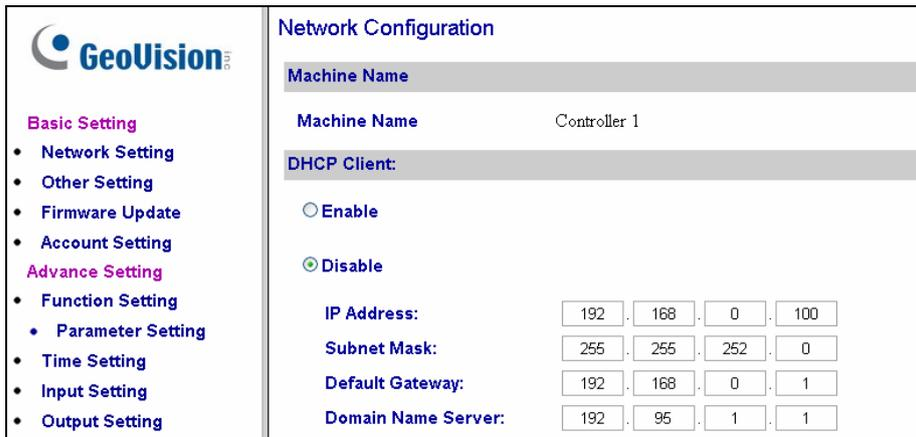

Figure 10-2
- Open the browser and enter the assigned IP address of the controller. The Network Configuration page appears. See Figure 10-2.